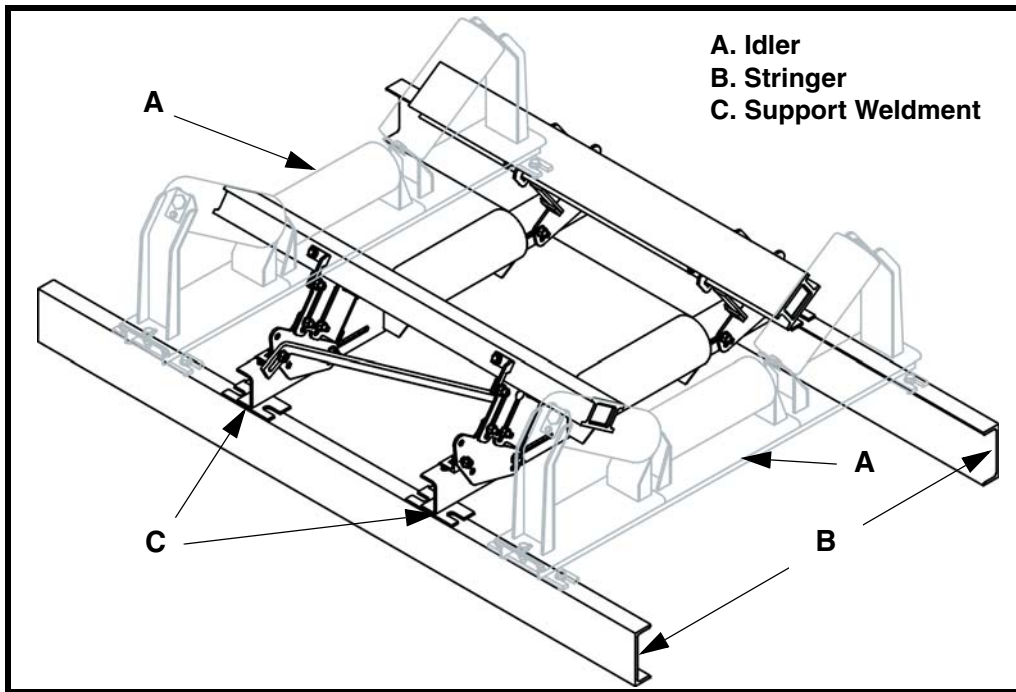
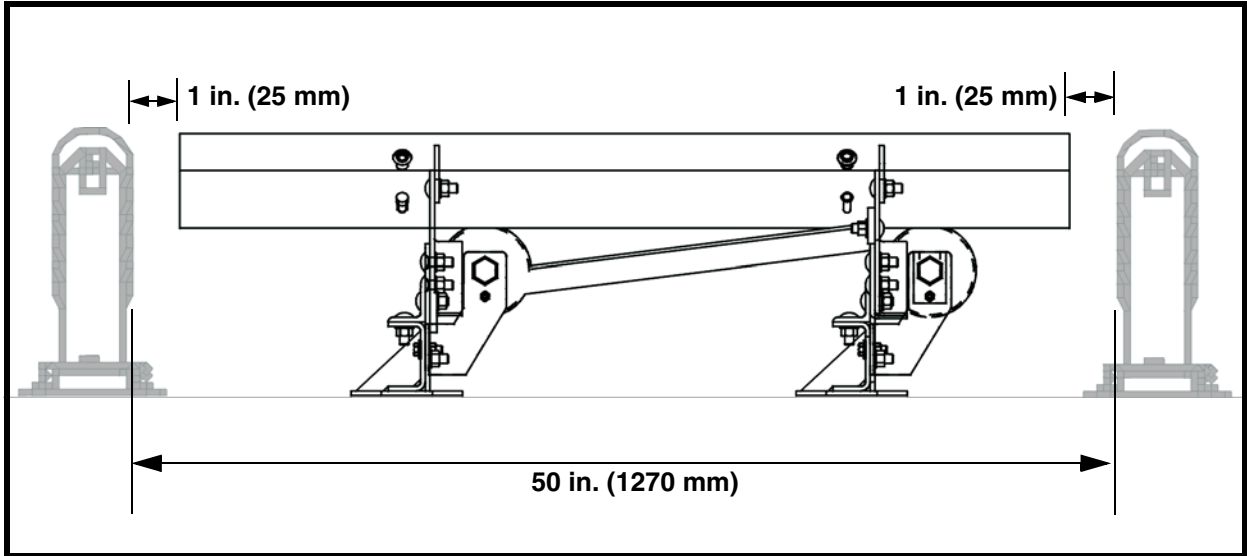

Figure 1. Locating Slider Cradle Between Idlers (Single-Bar Cradle shown)
Figure 2. Location of Slider Cradle to Idlers
6. Center slider cradle between remaining idlers (refer to Figure 1). Idlers should be installed approximately 50 in. (1270 mm) apart. Install an idler 1 in. (25 mm) before and 1 in. (25mm) after slider cradle. (refer to Figure 2.)
6. Center slider cradle between remaining idlers (refer to Figure 1). Idlers should be installed approximately 50 in. (1270 mm) apart. Install an idler 1 in. (25 mm) before and 1 in. (25 mm) after slider cradle. (refer to Figure 2).